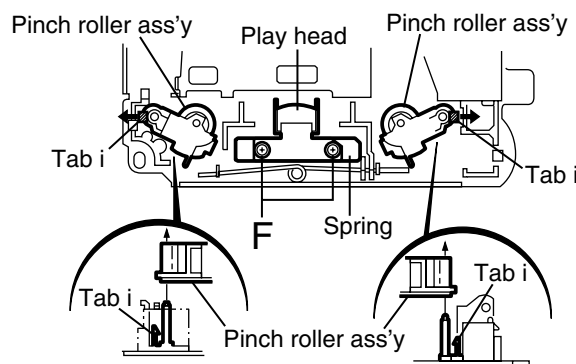

Fig.9
■ Removing the control switch board (See Fig.9 and 10)
■ Removing the play head (See Fig.9)
■ Removing the pinch roller ass'y (See Fig.9)